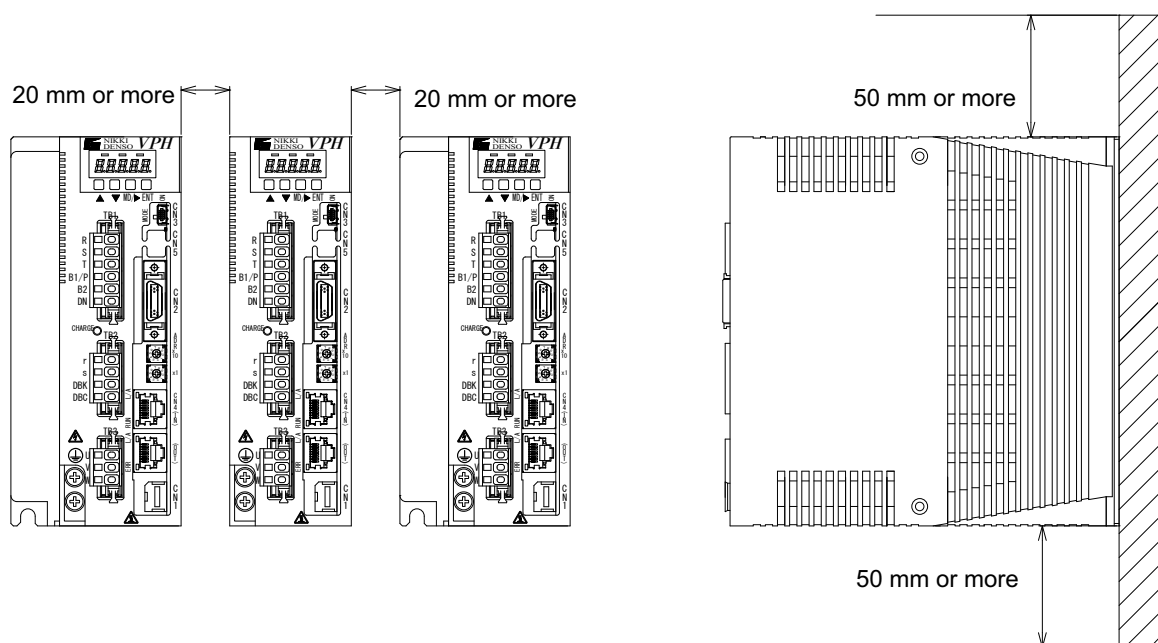

Figure 2-2 Installation and ventilation of the device
- Space around the device must be secured with the designated distance specified in Figure 2-2 (distance from other components or parts and a side wall of the control panel) in view of heat radiation efficiency and ease of maintenance.